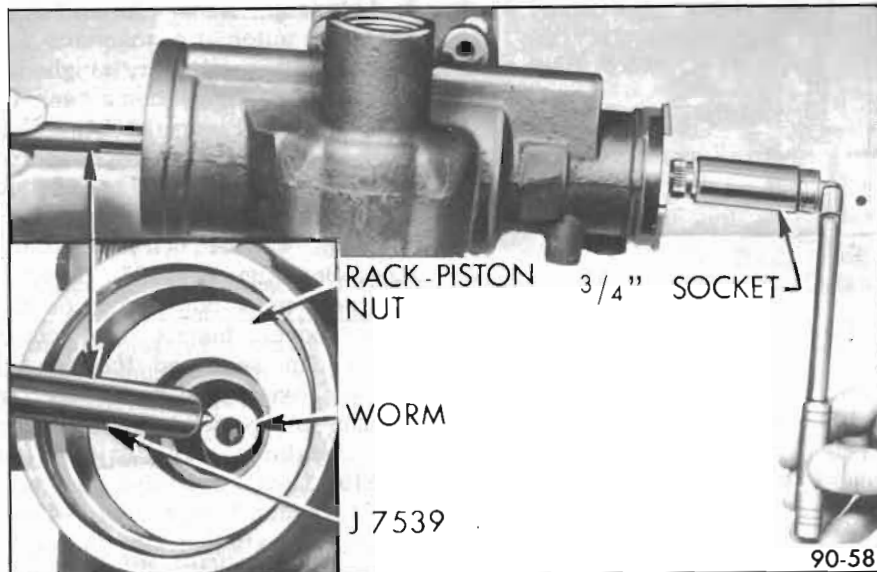

Figure 90-58—Removing Rack-Piston Nut
7. Insert Ball Retaining Tool J-7539 in end of worm. See Figure 90-58. Turn stub shaft so